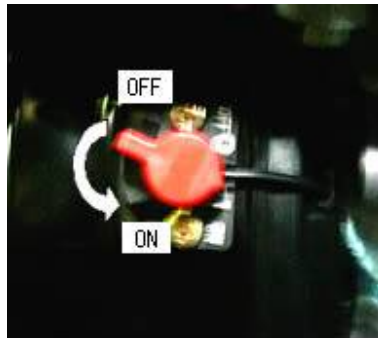

Figure 4-1
1. Release the operating handle by pulling upward on the handle pin (1, Figure 4-1) and move the operating handle down to the operating position.
3. Move the operating handle to the vertical position and secure with handle pin (1, Figure 4-1).